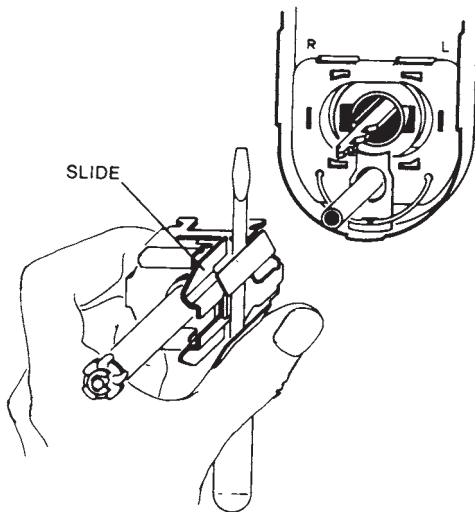

Figure 13.97 Right-hand conversion, Step 5.
5. Compress the slide with a screwdriver and pull the assembly out (Fig. 13.97).